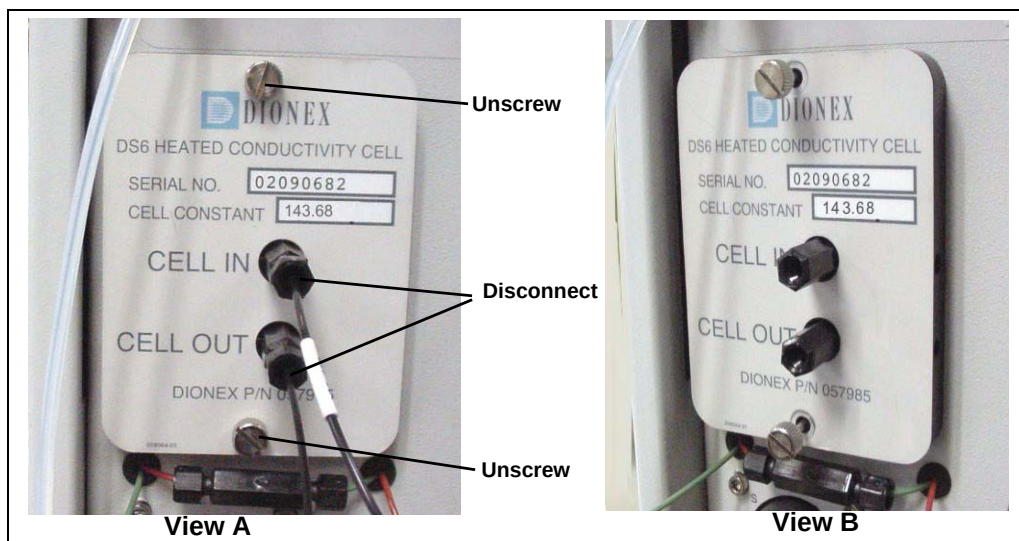

Figure 5-14. Removing the Cell Front Cover
2. Open the front door and disconnect the tubing from the **CELL IN** and **CELL OUT** fittings (see Figure 5-14, View A). Loosen the two screws on the cell front cover. The screws remain attached (see Figure 5-14, View B).